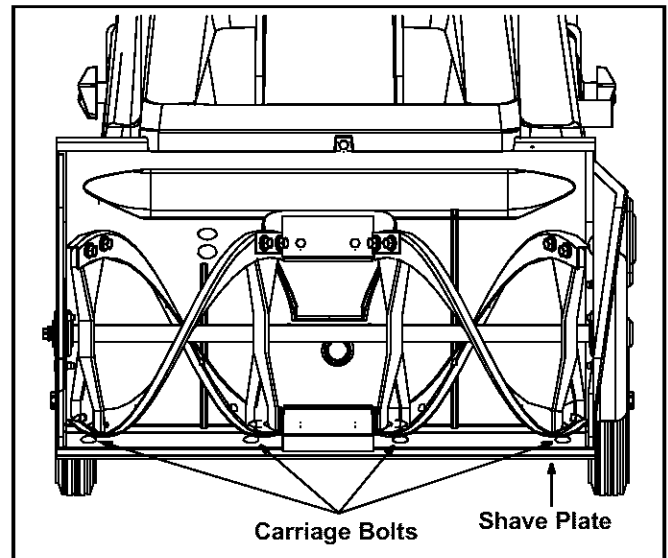

Figure 10
- To adjust, tip the snow thrower back so that it rests on the handle. Loosen the lock nuts from the carriage bolts which secure the shave plate to the housing. See Figure 10.
- Remove the four carriage bolts and hex lock nuts which secure it to the snow thrower's auger housing. Refer to Figure 10.